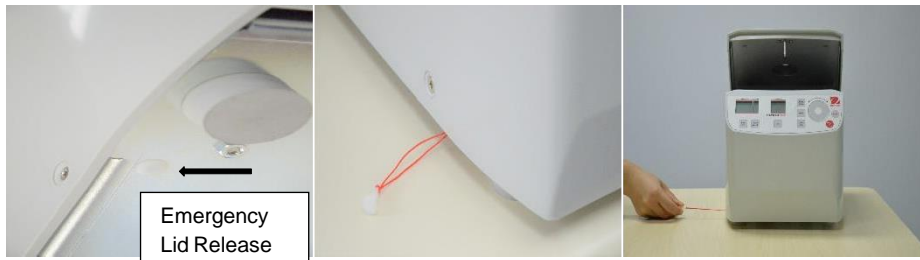

Figure 34
Please proceed as follows (see Figure 34):
- At the right side of the centrifuge (**FC5706P**) there is a plastic stopper. At the **FC5707** the stopper is at the left side (see Figure 34). Remove this stopper, which is connected to the lid lock, horizontally from the housing until the centrifuge lid opens.